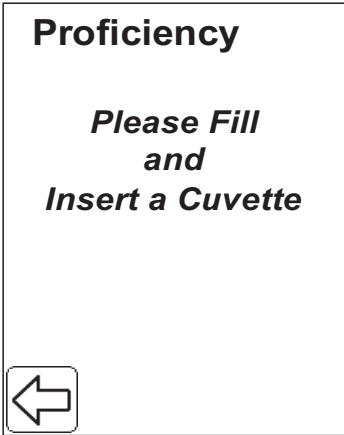

FIGURE 6-27
- f) Press the Confirm button (3) to return to *FIGURE 6-27*.